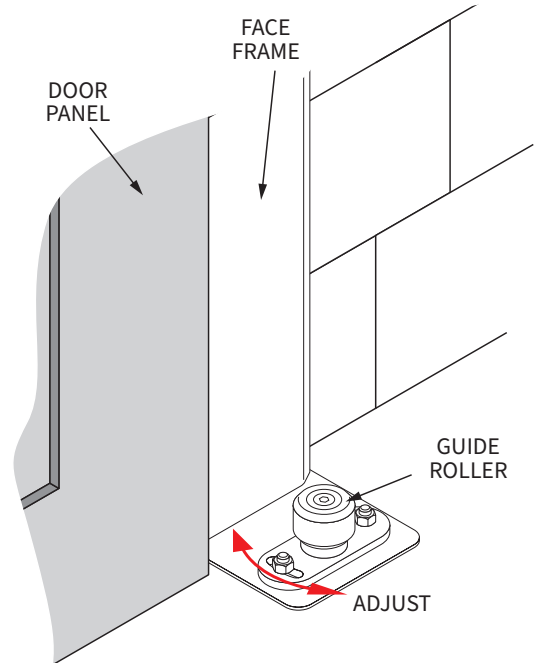

Figure 14: Adjusting Panel to Engage Gasket
4. Manually operate the door and visually inspect to ensure the gasket is making contact around the perimeter of the opening. Equally adjust guide roller to maintain a seal along the trailing edge face frame (Figure 14). Make any adjustments necessary for a tight seal.